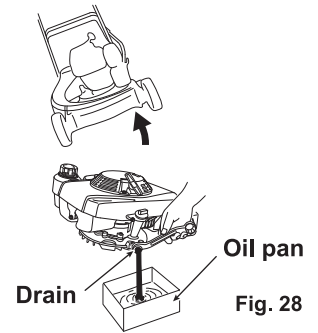

Fig. 28
2. Drain the engine oil from the drain port. (See Fig. 28)